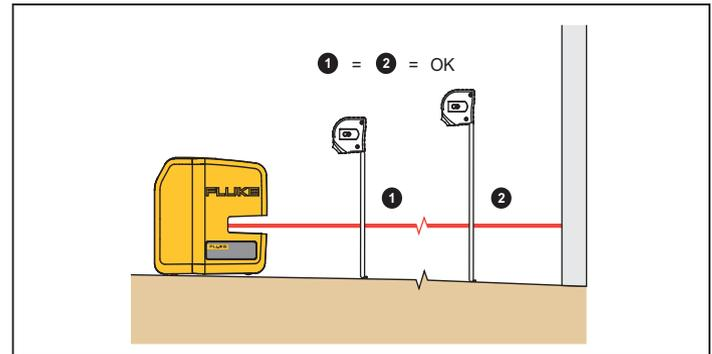

Figure 4. Existing Item Alignment
2. Measure the distance from the item to the laser. See Figure 4.